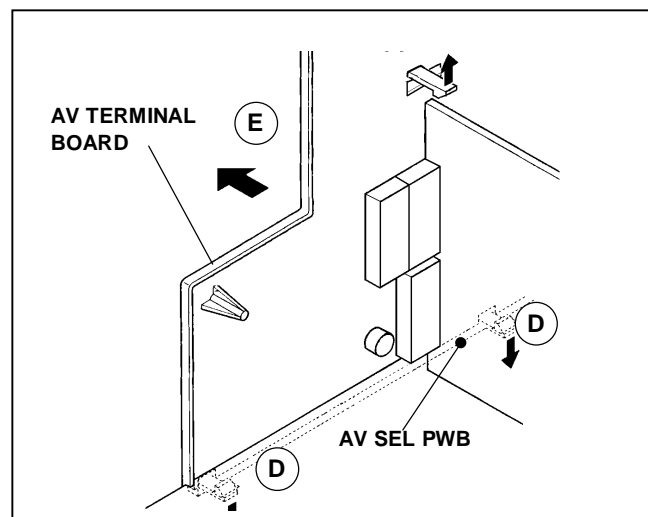

Fig. 2
2. Remove the claws marked (D) under the CHASSIS as shown in Fig. 2.
3. Slightly in the direction of arrow * as shown in Fig. 2.